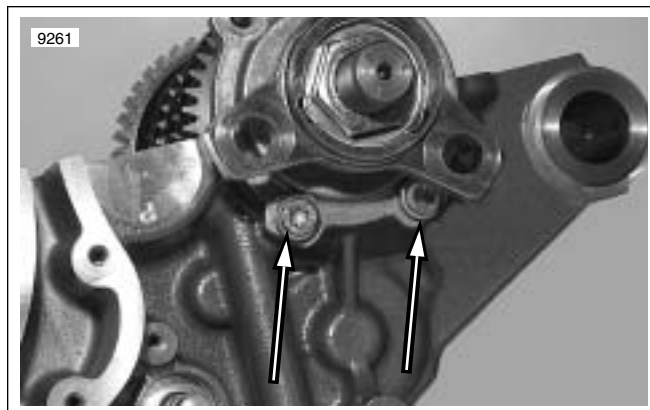

Figure 3-134. Output Shaft Seal Retainer
7. See Figure 3-134. Install two upper case fasteners in drive sprocket seal retainer.